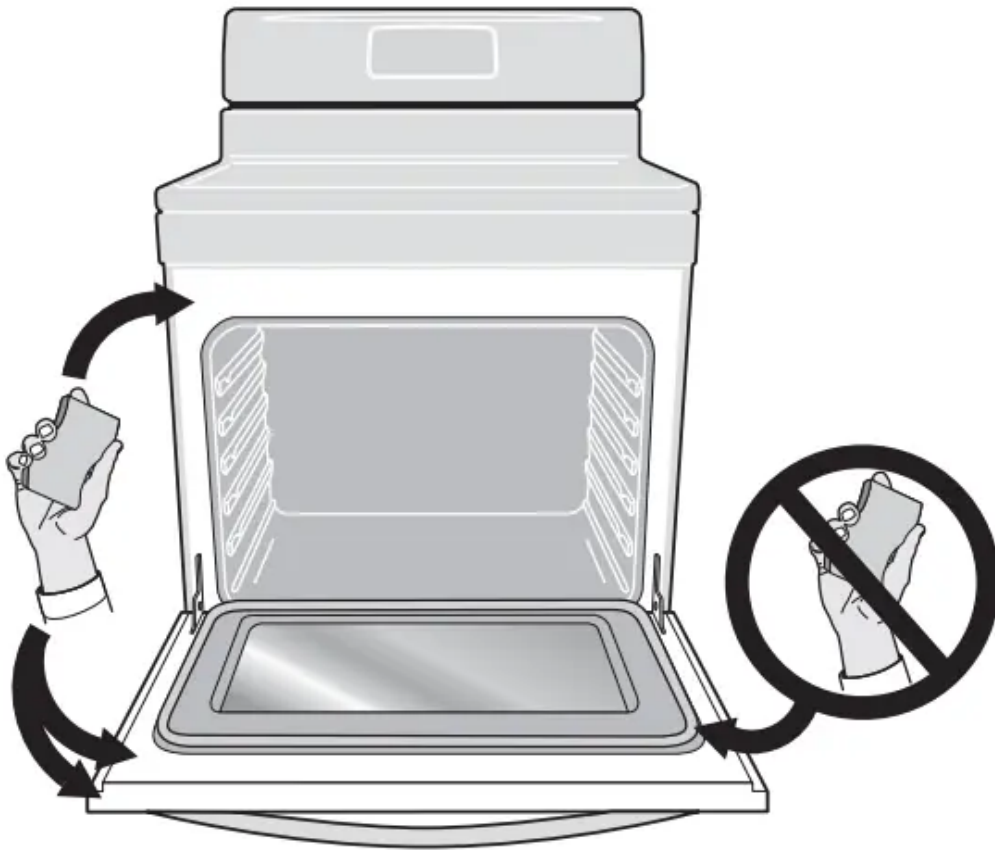

Figure 17: Door Gasket
- Do not clean the oven door gasket (Figure 17). The woven material of the oven door gasket is essential for a good seal. Care should be taken not to rub, damage, or remove the gasket.